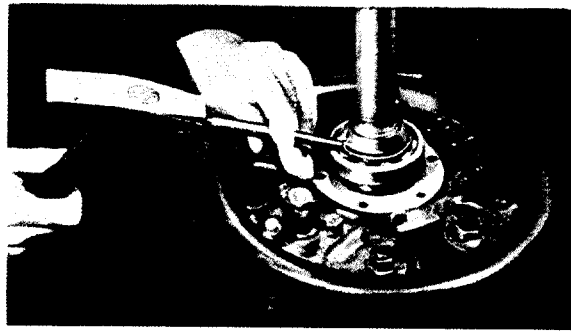

Fig. H 3a/78a
80. Press rear axle shaft into rear axle tube (before this is done, provide ball bearing with oil and fill hollow space between the two grease retainers with anti-friction bearing grease, (see Fig. H 3a/75) and bolt brake anchor plate in place.